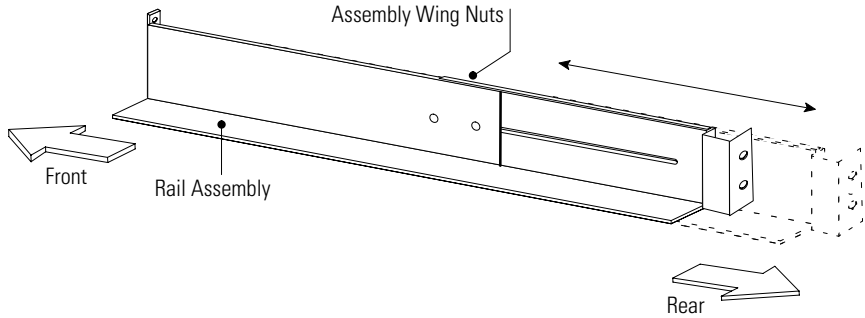

Figure 1. Adjusting the Rail Depth
- 1. Loosen the assembly wing nuts on both rail assemblies and adjust the rail size for the depth of your rack (see Figure 1).